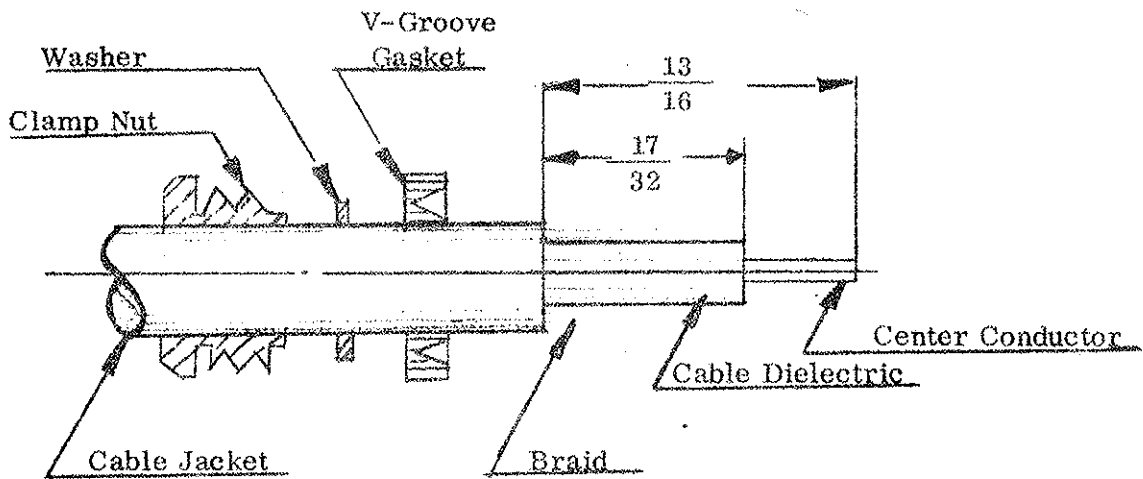

FIG. 1
1. Slide clamp nut, washer and V-groove gasket over cable as shown in Fig. 1.
2. Remove cable jacket to dimension shown: do not damage braid. Comb out braid wires, then fold back and make dielectric cut. Do not nick center conductor (Fig. 1).